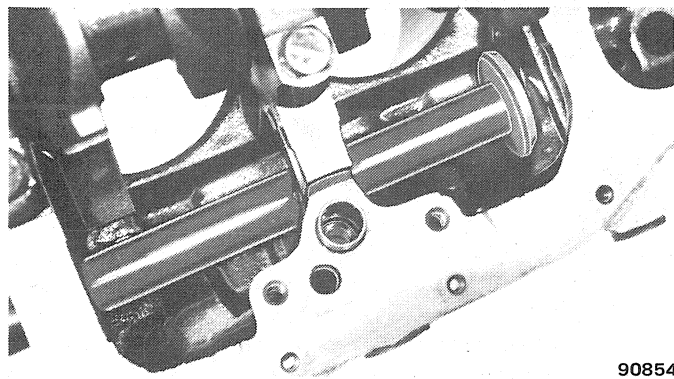

Fig. 1B-14 Removing Center Camshaft Bearing—Typical
(1) With camshaft and flywheel/drive plate removed, drive out expansion plug from rear cam bearing from inside block.
(2) Using Bearing Remover J-21473-1, drive front bearing toward rear and rear bearing toward front.
(3) Install extension J-21054-1 and drive center bearing out toward rear (fig. 1B-14).
(4) Position replacement bearing on tool and install.